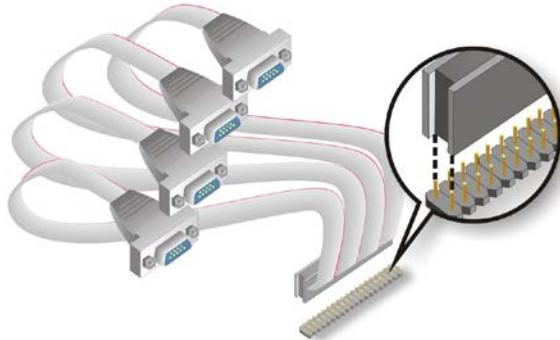

Figure 5-12: Four Serial Port Connector Cable Connection
Step 2: Align the connectors. Correctly align pin 1 on the cable connector with pin 1 on the WAFER-LX2 serial port COM connector. See **Figure 5-12.**
the serial port COM connector on the WAFER-LX2, connect the cable connector to the onboard connectors. See **Figure 5-12**.